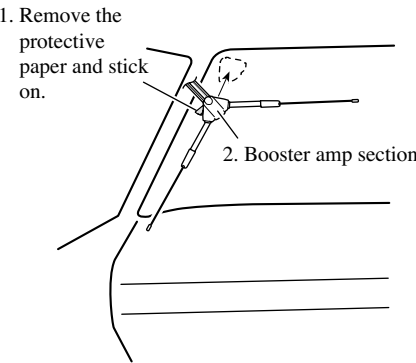

Fig. 9
3. Mounting on the booster amp section (Fig. 9)